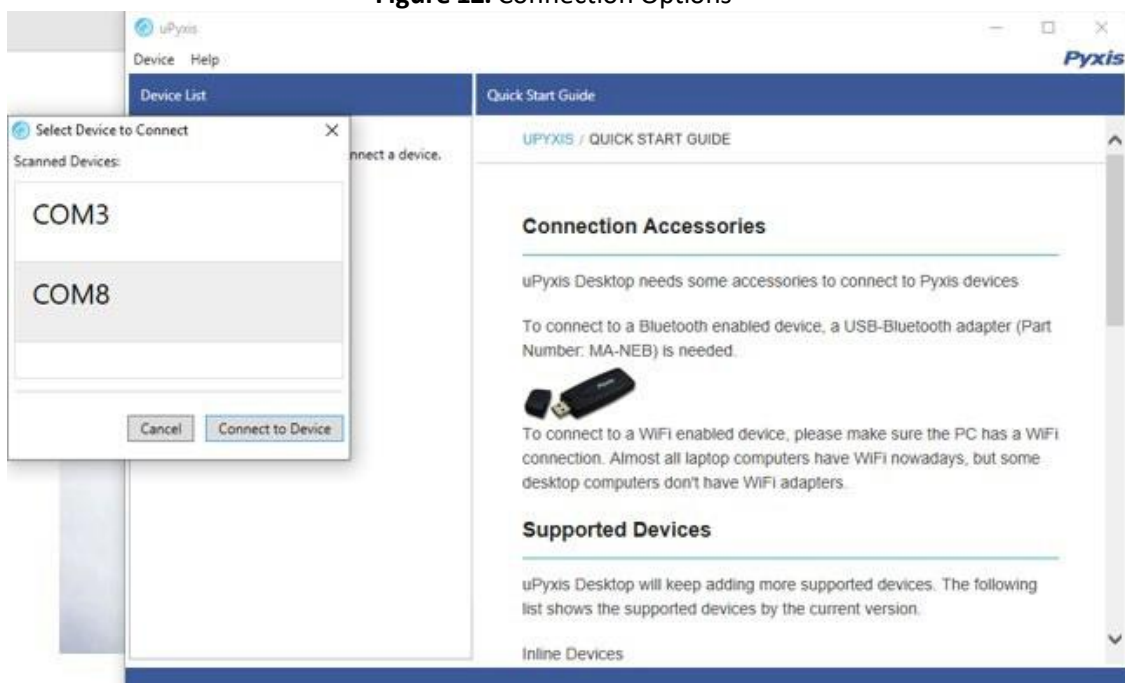

Figure 13. Select a Comm port
7. Select the Comm Port to make a connection. Normally only one Comm port is identified by uPyxis (Figure 13). If more than one Comm port listed in the selection dropdown, you may try to select each one to see if a connection can be made. Alternatively, you may use the Windows Device Manager to identify the Comm Port that the Pyxis USB adapter is using.